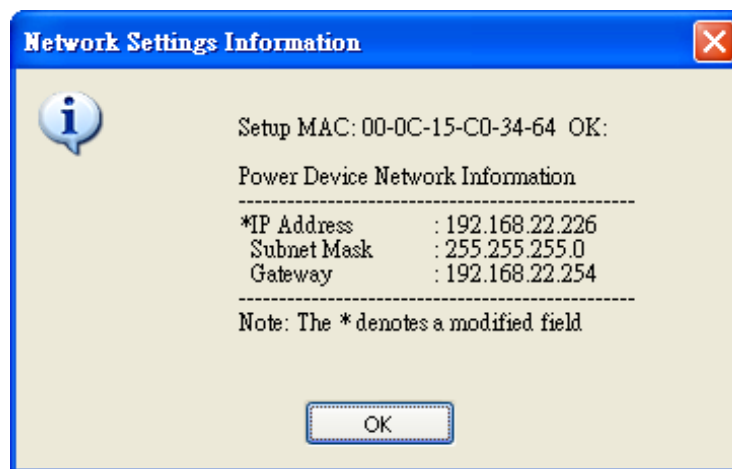

Figure 4. Setup IP Address Successful message.
8. If IP address is successfully set, you will see a message that the IP set up is OK, as shown in Figure 4.